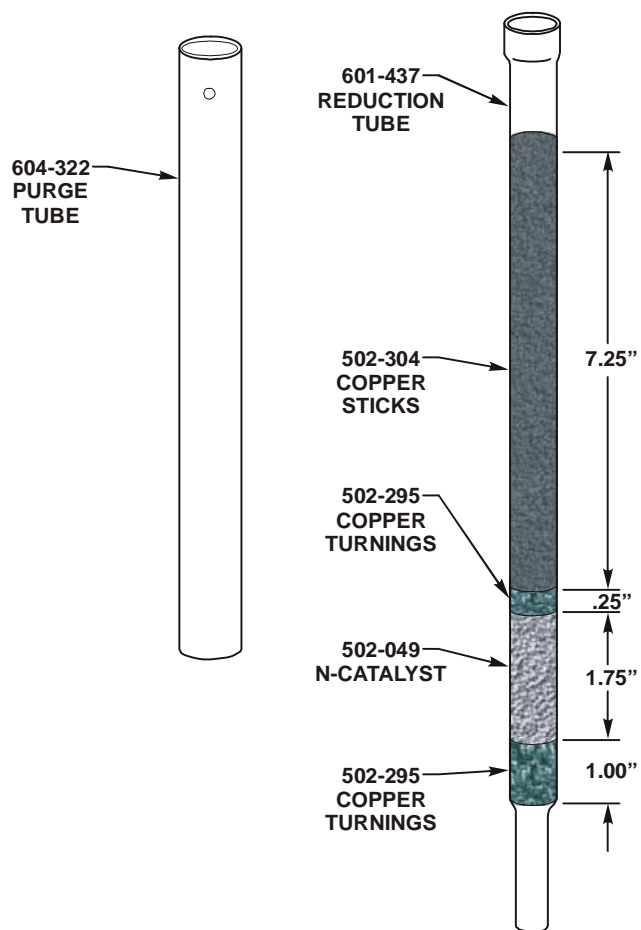

Figure 6-8
11. Repack the clean or new reduction heater tube, Figure 6-8 on page 6-21.